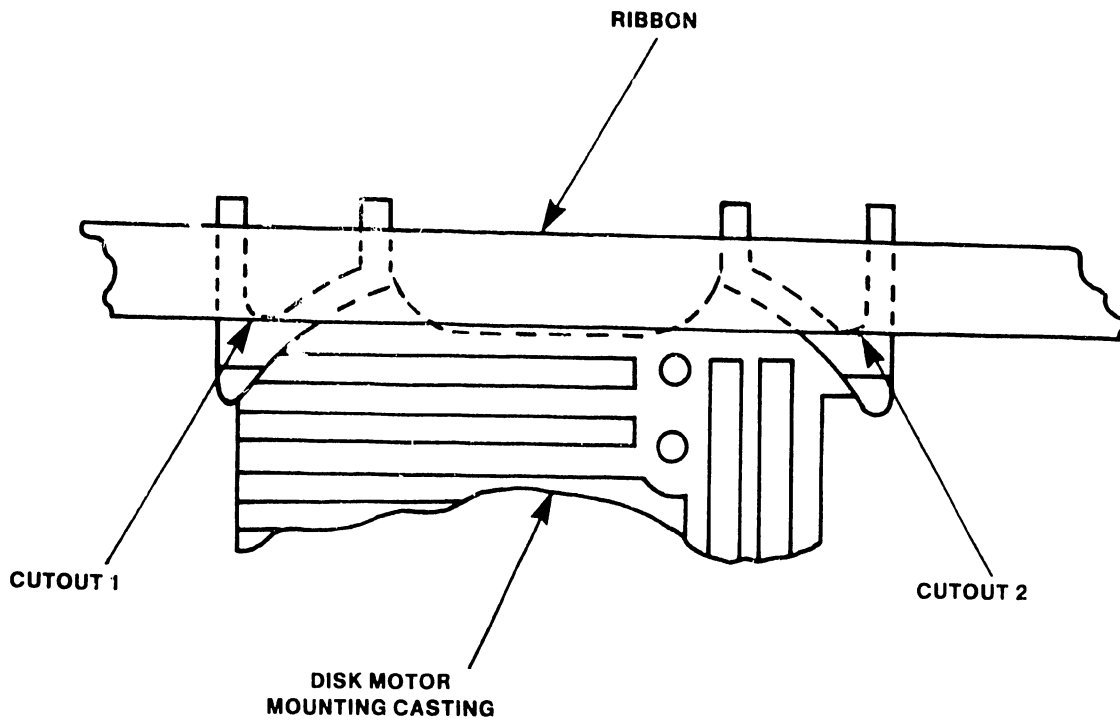

FIGURE 5-25 NOMINAL RIBBON HEIGHT
2. The nominal ribbon height as shown in Figure 5-25 is where the lower edge of the ribbon is in line with disk motor mounting casting at cutouts 1 and 2.